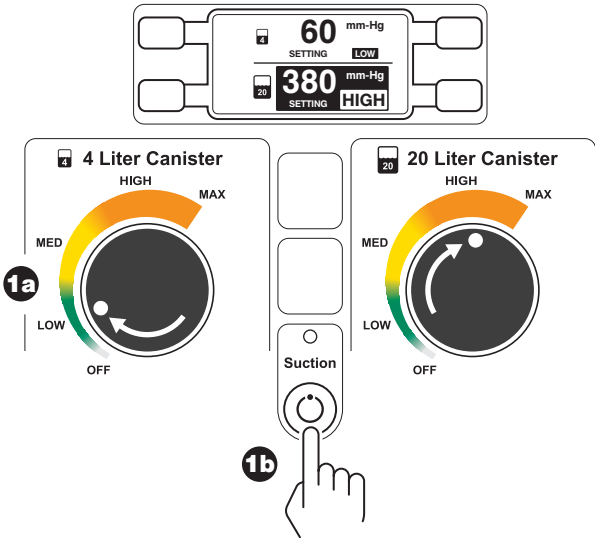

Figure 26 To Start and Adjust Suction
1. To Control Fluid Suction (Figure 26)